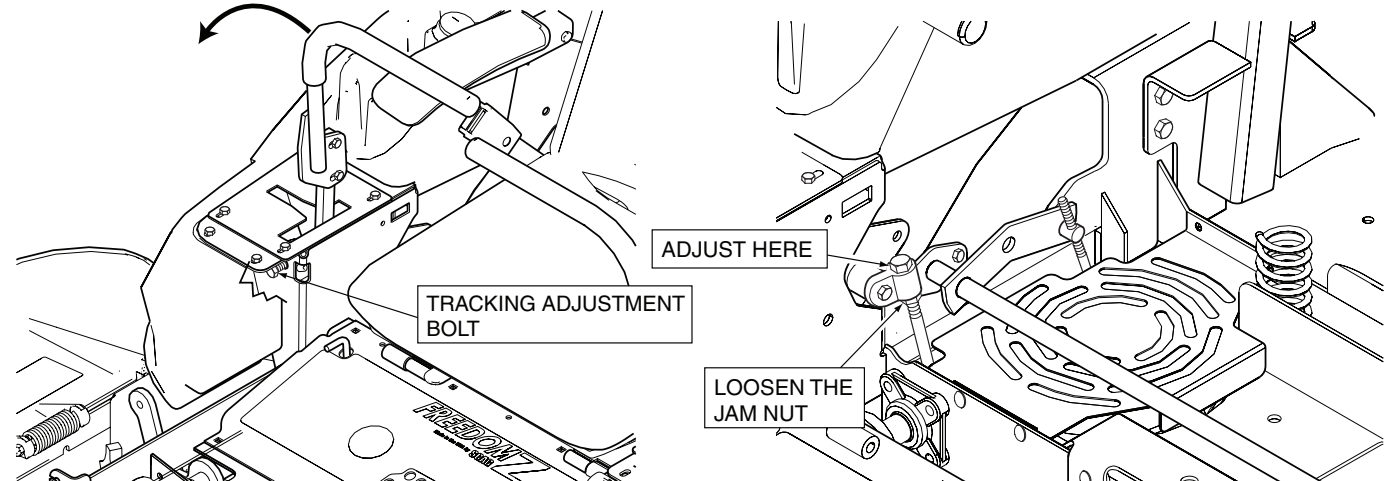

Figure 6-3. Steering Control Rod Adjustment
4. Adjust the RH wheel by loosening the jam nuts on the steering control rod and turning the adjustment nut until the drive wheel turns in the forward direction. Turn the adjustment nut back until the drive wheel stops moving. Turn the adjustment nut an additional 1/2 turn. See Figure 6-3.
5. Tighten the jam nuts and repeat for the LH wheel. See Figure 6-3.
- A. Stop the machine and place the steering control levers in the neutral position. Turn the tracking adjustment bolt for the LH pump inward (clockwise). This will cause the control rod to stroke the LH pump less, slowing down the LH wheel. See Figure 6-3.
- A. Stop the machine and place the steering control levers in the neutral position. Turn the tracking adjustment bolt for the RH pump inward (clockwise). This will cause the control rod to stroke the RH pump less, slowing down the RH wheel. See Figure 6-3.